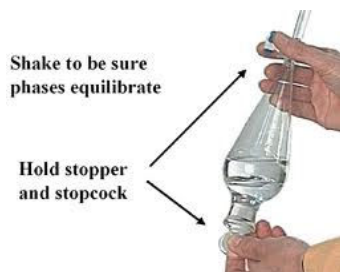

Figure 6.
- (e) Shake the separatory funnel for two minutes (Figure 6).